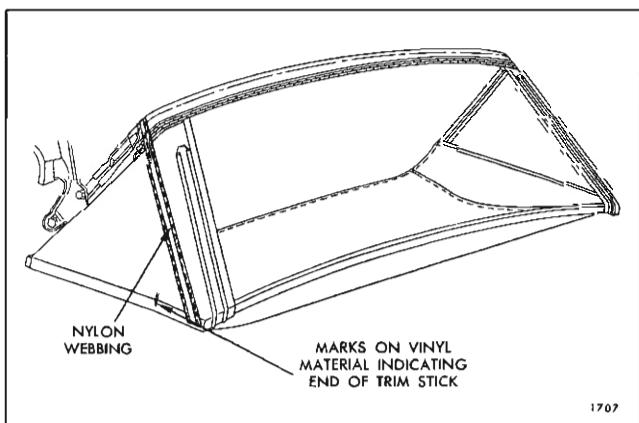

Fig. 2-I-9—Marking Back Curtain Material
3. Trim selvage end of side stay pads just forward of rear rolled edge of rear roof bow (Fig. 2I11).